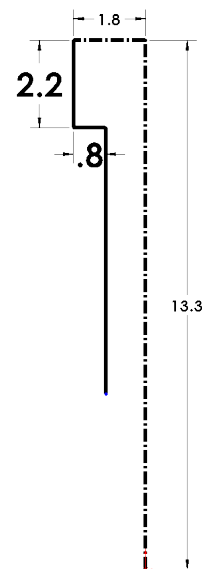

Fig. 4
Step 3. Click **Smart Dimension**  (S) on the Sketch toolbar.
Step 4. Add dimensions as shown in **Fig. 4**.